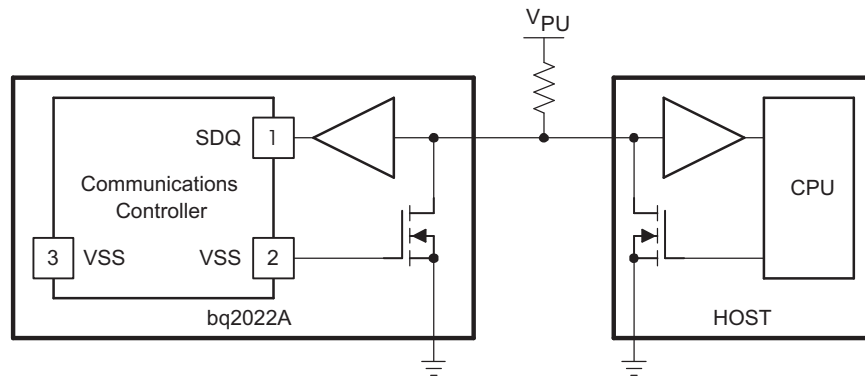

Figure 1. Typical Applications Circuit
(1) 5-kΩ series resistor between SDQ pin and V_{PU}. (See Figure 1)
(2) t_{WDH} must be less than t_c to account for recovery.
Because the drive output of the bq2022A is an open-drain, N-channel MOSFET, the host must provide a source current or a 5-k Ω external pullup, as shown in the typical application circuit in Figure 1.